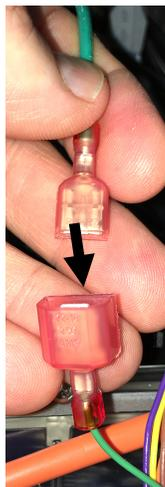

Figure 14
13. Attach the new ground to the rear ground connection of the controller and the other end to the ground lug on the bottom of the control box (see Figures 14 and 15).